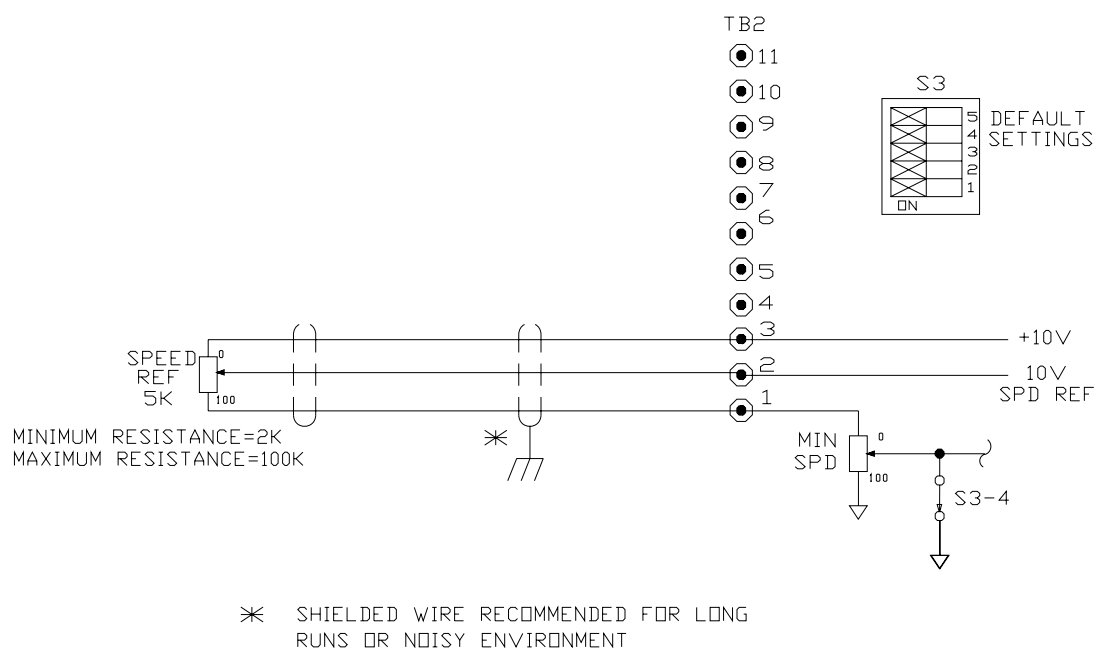

Figure 12. Signal Connection Diagram, Motor Speed Potentiometer
10. If remote operator control wiring and/or signal wiring is required, connect the controller as shown in the appropriate connection diagram (Figures 3 through 21). Figures 3 through 11 show operator control connections, and Figures 12 through 21 show signal connections.